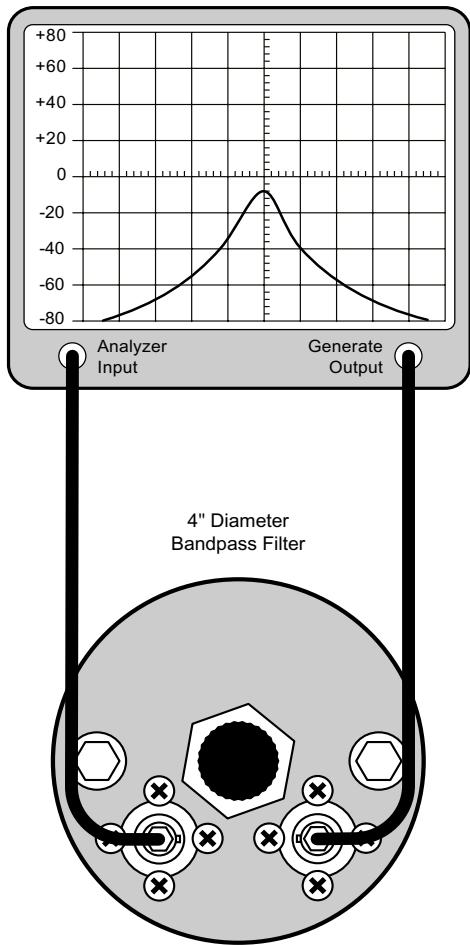

Figure 2: Checking Cavity Tuning.
2. The resonant frequency of the filter is checked by connecting the tracking generator to the input of the cavity filter while the spectrum analyzer is connected to the output, as shown in **Figure 2**.
4. Adjust the pass frequency by setting the peak (minimum loss value) of the response curve to the desired frequency (should be the center-vertical tragically line on the IFR A-7550's display). See figure 2. The resonant frequency is adjusted by using the tuning rod, which is a sliding adjustment (invar rod) that rapidly tunes the